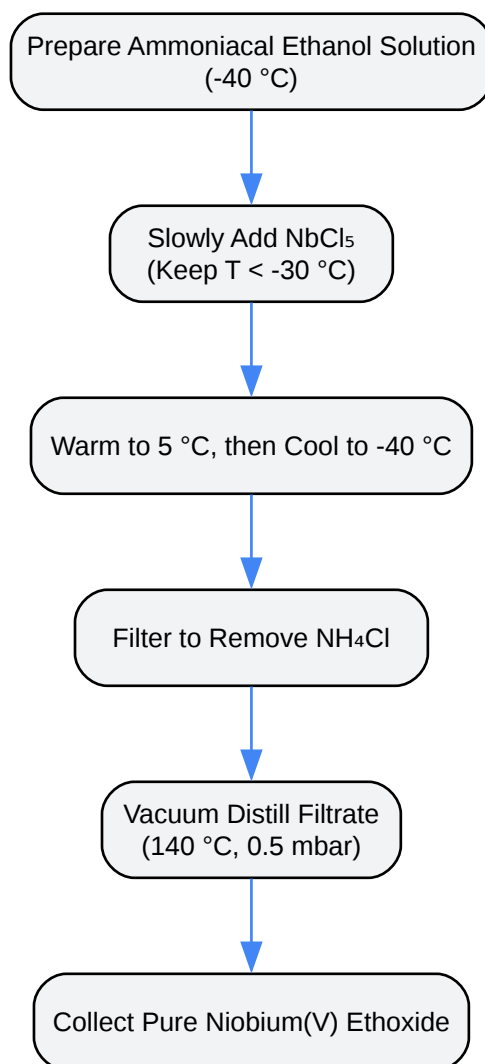

Figure 2: Experimental Workflow for Niobium(V) Ethoxide Synthesis
Caption: Figure 2: Experimental Workflow for **Niobium(V) Ethoxide** Synthesis